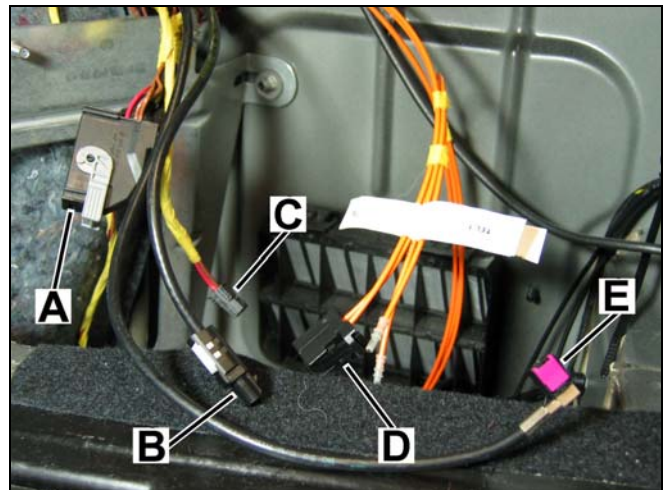

Figure 4
- UHI power supply connector (A, Figure 4)
- Male FAKRA antenna lead (B, Figure 4)
- Linear compensator power supply connector (C, Figure 4)
- UHI MOST connector (D, Figure 4)
- Female FAKRA antenna lead (E, Figure 4)